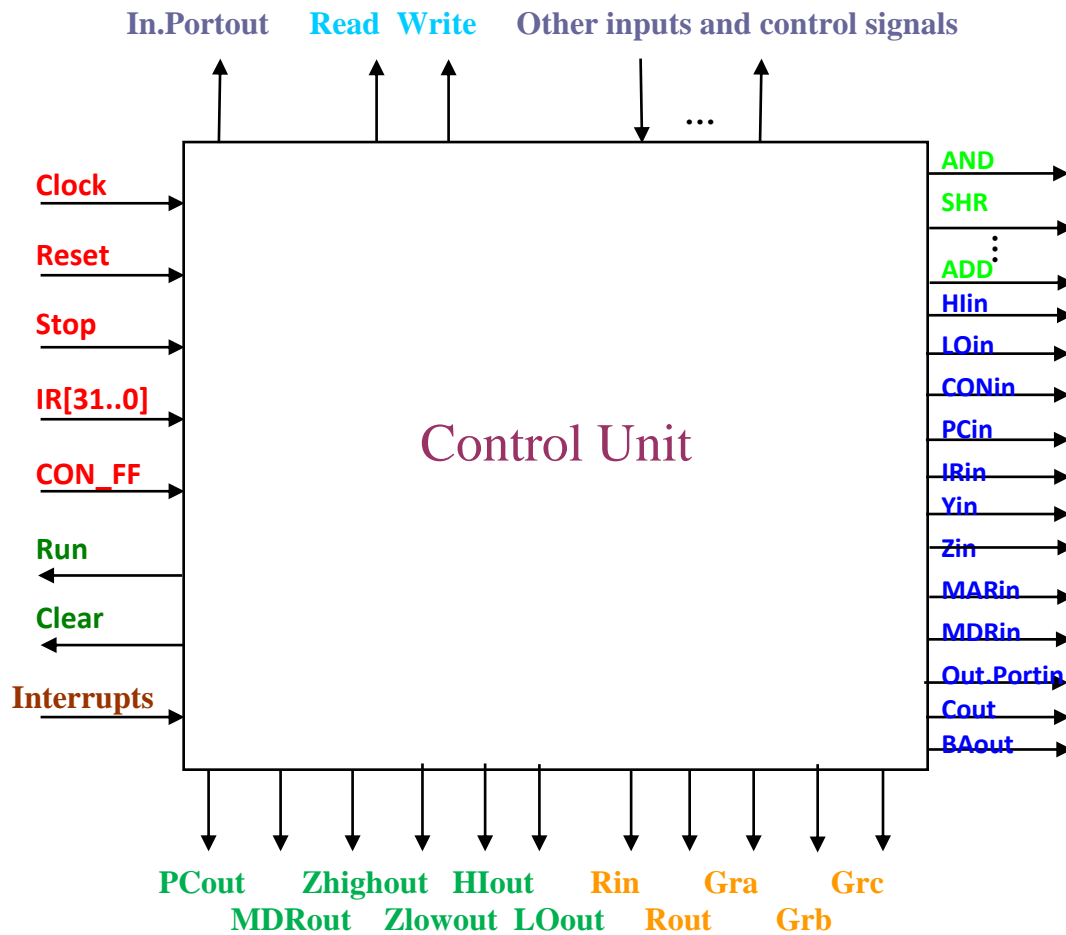

Figure 5: Block diagram of the Control Unit
ALU (generated by the Control Unit, shown in Figure 5) will choose the required operation. These control signals include *ADD*, *SUB*, *MUL*, *DIV*, *SHR*, *SHL*, *ROR*, *ROL*, *AND*, *OR*, *NEG*, and *NOT* control signals, among others. The Z register holds the result of the operation in ALU, and will be able to drive the Bus in the next clock cycle when the bus is free. The Z register is 64-bit long to hold the result of a multiplication (product) or a division (remainder in the higher byte, and quotient in the lower byte) operation temporarily before loading the *HI* and *LO* registers. You may need a multiplexer between the Y register and the A input of the ALU. You may also need to include a simple circuitry (such as a multiplexer) between the ALU output C, and the Z register. Depending on the current instruction in the instruction register, *IR*, this logic selects the output of one of the ALU units to drive the Z register.
**(b) Control Unit:** The Control unit is to be designed in Phase 3. However, a block diagram is provided here for a better understanding of the Datapath, as shown in Figure 5. The Control Unit is at the heart of the processor. It accepts as inputs those signals that are needed to operate the processor, and provides as outputs all the control signals necessary to execute the instructions. The outputs from the Control Unit are the control signals that we use to generate **Control Sequences** for the instructions of the Mini SRC.